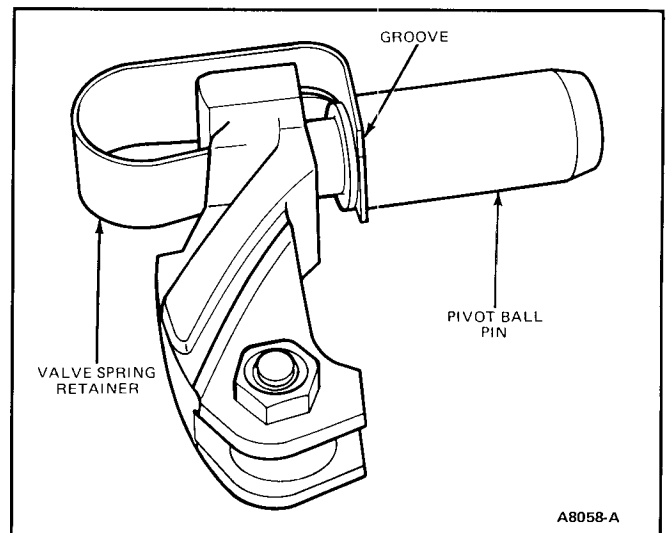

FIG. 16 Rocker Arm Pivot Ball
- Remove rocker arm pivot ball pin (Fig. 16), if necessary, using Tool D84P-6564-A or equivalent.
- Install rocker arm pivot ball pin (Fig. 16).
3. Install rocker arm retaining clip, making sure clip is engaged in groove on pivot ball pin (Fig. 16).